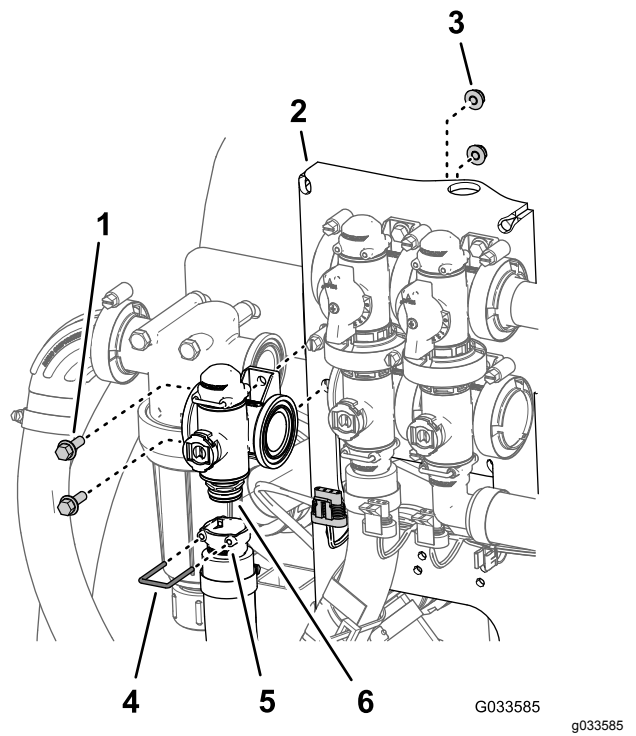

Figure 114
2. Remove the retainer that secure the outlet fitting to the manifold coupling for the rate control valve (Figure 114).
3. Remove the 2 flange-head bolts (1/4 x 3/4 inch) and 2 flange locknuts (1/4 inch) that secure the rate control valve to the valve mount and remove the valve manifold from the machine (Figure 114).